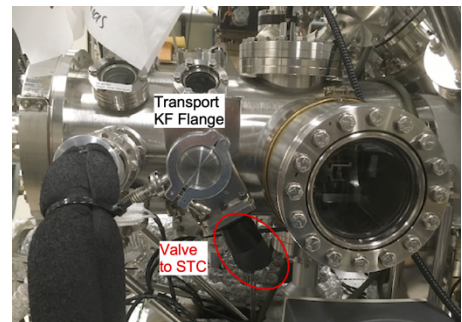

Figure 1 STC showing KF flange for PTS attachment and Valve to STC
- 5) Check that the valve to the STC is closed (the one attached to the KF Flange that faces down), Figure 1. TAKE CARE: You can vent the STC by mistake!!!